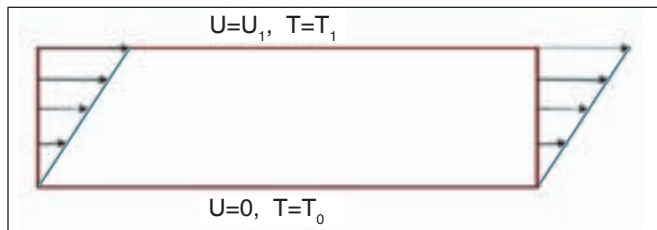
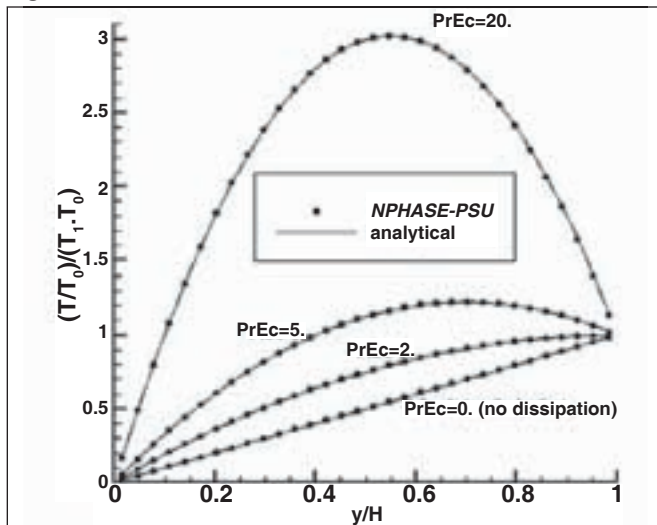

Figure 8—Illustration of the linear heated Couette flow case.
Figure 9—Comparison of *NPHASE-PSU* and exact solutions for the linear heated Couette flow case.
**Couette flow with wall heating.** The third validation performed sought to verify the viscous dissipation term implementation in *NPHASE-PSU*. The relevance of viscous dissipation physics to gear windage is significant, as discussed above. The analytical solution for the temperature distribution in a laminar linear Couette flow was chosen. Figure 8 shows a diagram of the configuration. The product of the Prandtl number ( $Pr \equiv \mu C_p / k$ ) and the Eckert number ( $Ec \equiv U_i^2 / C_p (T_1 - T_0)$ ),  $PrEc$ , is a measure of the role of viscous dissipation in a flow. The nearly exact comparisons between CFD result and the analytical solution, shown in Figure 9, across a range of  $PrEc$ , illustrates that the viscous dissipation terms in *NPHASE-PSU* are implemented correctly.